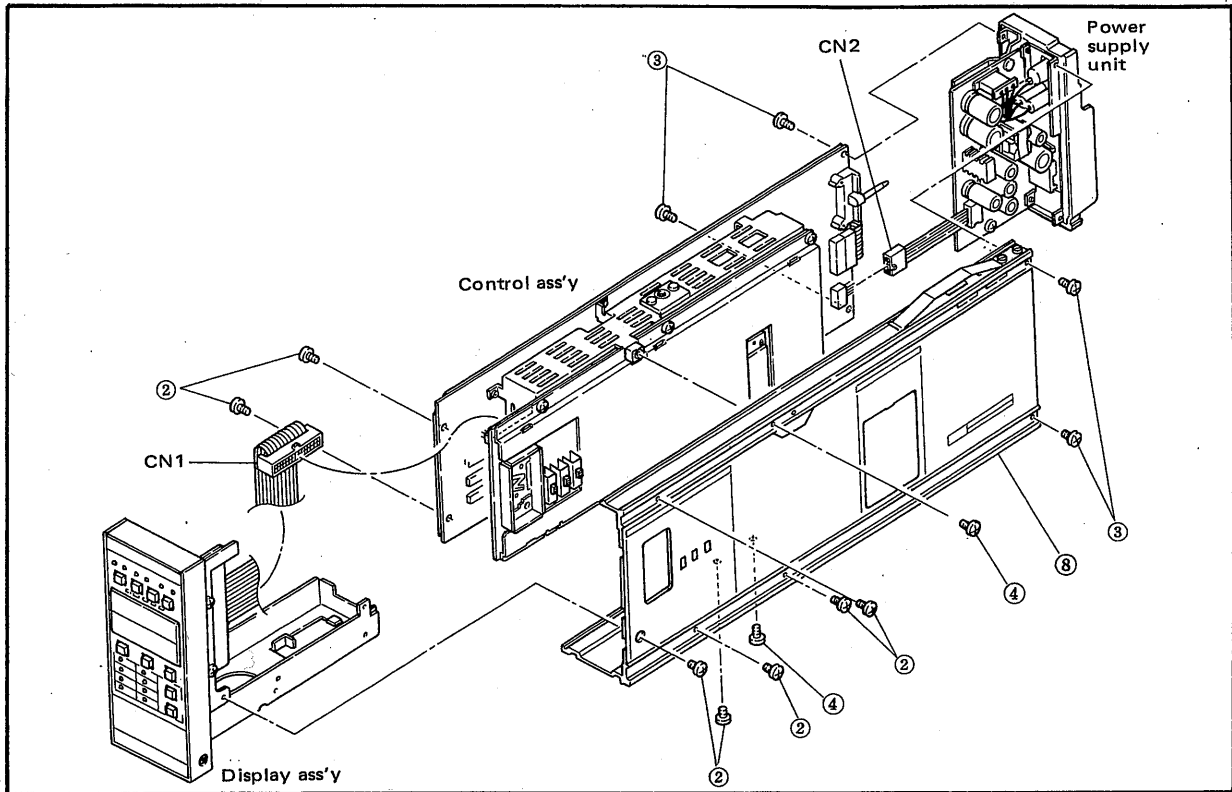

Figure 7-2-2. Removing Display Assembly and Power Supply Unit.
- (1) Remove seven screws ② in Figure 7-2-2.
- (2) Remove connector CN1.
- (3) Carefully pull the display assembly out toward the front.
- (1) Remove four screws ③ in Figure 7-2-2.
- (2) To separate the power supply unit, pull it out toward the rear and remove connector CN2.
- (1) Remove the display assembly and the power supply unit as instructed in Subsection 7-2-2 and 7-2-3.
- (2) Separate the control assembly from the chassis ⑧ by removing two screws ④ on the right side and at the bottom in Figure 7-2-2.
- (3) Remove two screws ⑤ at the upper and lower part of the left side and open the cover ⑨ to expose two screws ⑥.
- (4) Remove two screws ⑥ to remove the CPU card.
- (5) By disengaging connectors CN3, CN4 and CN5, the I/O card is separated from the CPU card.
- (6) The I/O card can be removed from the bracket ⑩ by removing seven screws ⑦.